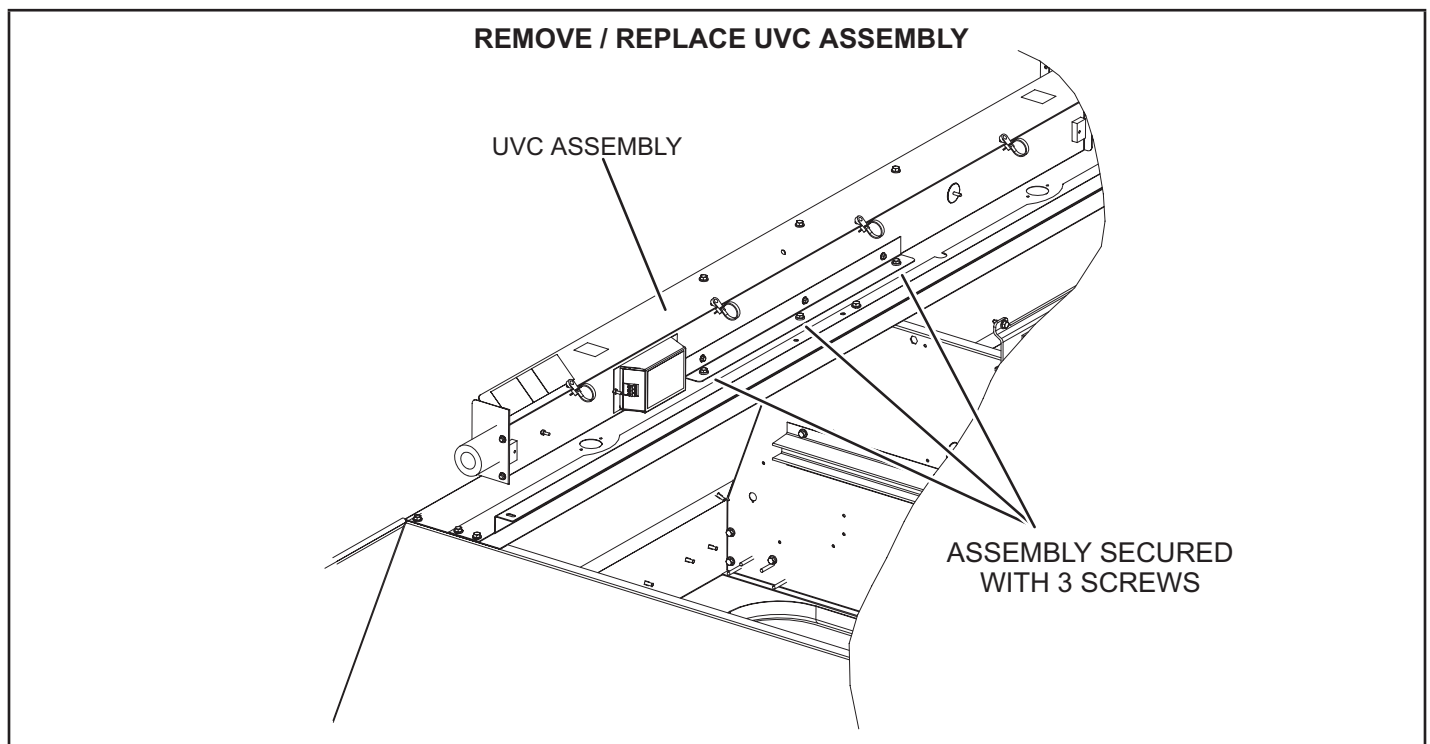

FIGURE 37
- 6 - Allow 10 minutes before touching the lamps. Then, carefully remove the lamp splash guards (and lamp for annual replacement) from each of the lamp holders. See FIGURE 37.